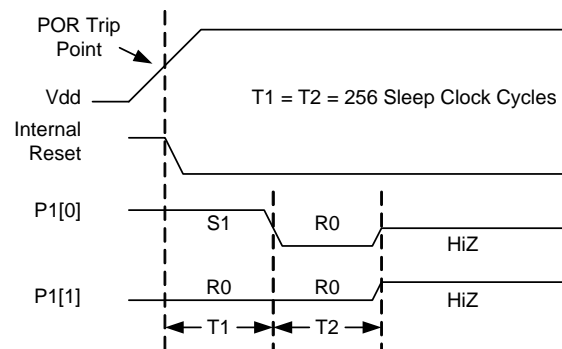
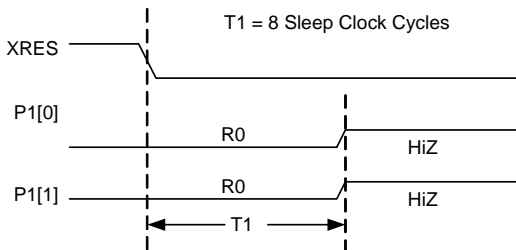

Figure 29-1. P1[1:0] Behavior on Power Up
Figure 29-2.  $P1[1:0]$  Behavior on External Reset ( $XRES$ )
Power on Reset and External Reset cause toggling on two GPIO pins, P1[0] and P1[1], as described below and illustrated in Figure 29-1 and Figure 29-2. This allows programmers to synchronize with the PSoC device. All other GPIO pins are placed in a high impedance state during and immediately following reset.
At power up, the internal POR causes P1[0] to initially drive a strong high (1) while P1[1] drives a resistive low (0). After 256 sleep oscillator cycles, the P1[0] signal transitions to a resistive low state. After additional 256 sleep oscillator clocks, both pins transition to a high impedance state and normal CPU operation begins. This is illustrated in Figure 29-1.
During External Reset ( $XRES=1$ ), both  $P1[0]$  and  $P1[1]$  drive resistive low (0). After  $XRES$  deasserts, these pins continue to drive resistive low for another 8 sleep clock cycles. After this time, both pins transition to a high impedance state and normal CPU operation begins. This is illustrated in Figure 29-2.